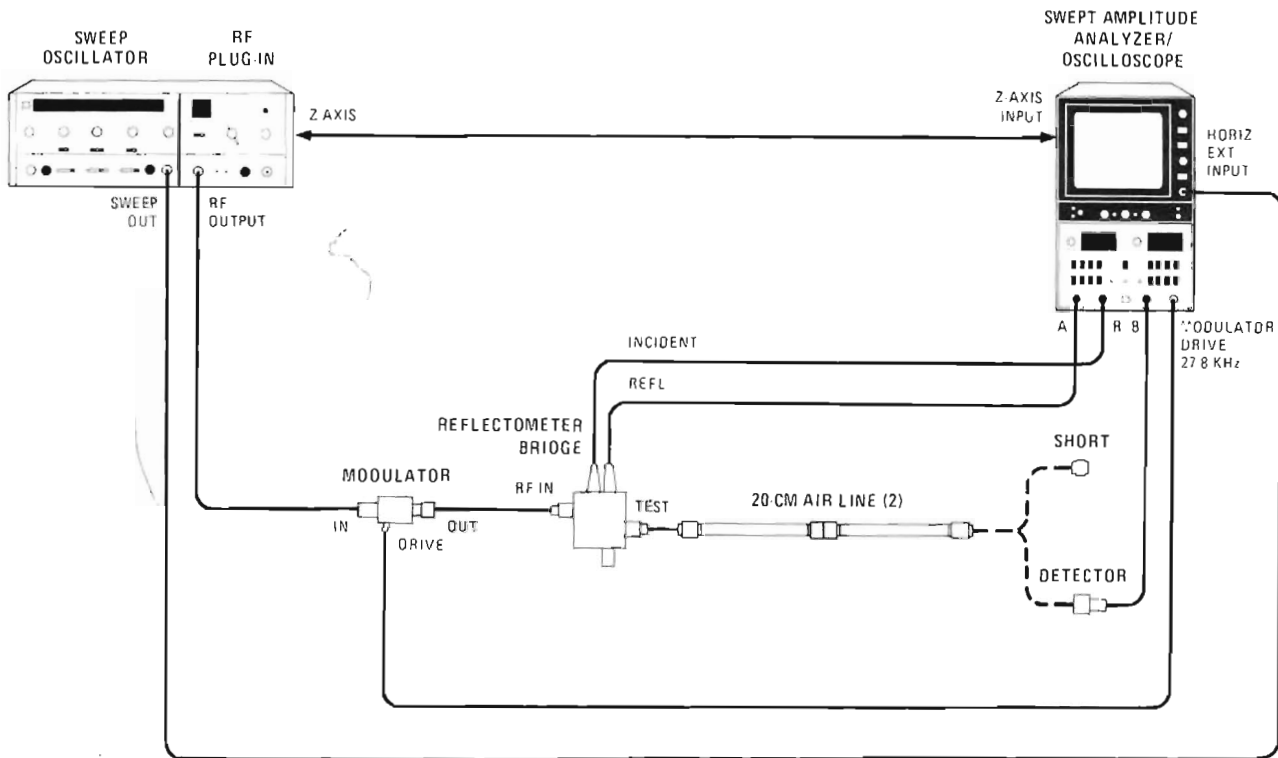

Figure 4-4. Frequency Tracking Test Setup
- a. Connect equipment as shown in Figure 4-4 using RF plug-in to cover the band of interest.